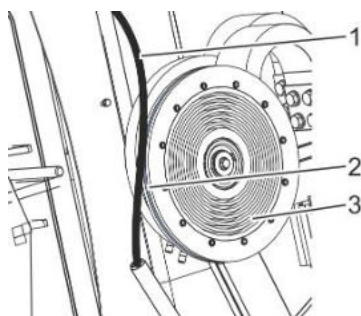

Fig. 47: Welding roller
8. Insert the circumferential wire (Fig. 47/1) into the groove (Fig. 47/2) of the welding roller (Fig. 47/3).